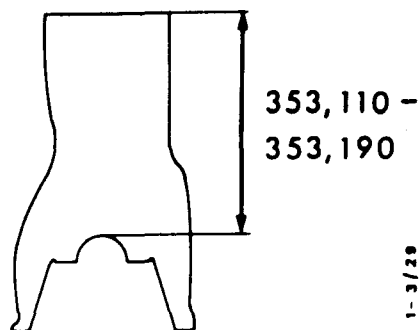

Fig. 5
3. Machine the block (fine milling or grinding) to the prescribed height - see fig. 5. The profile depth must be max. Ra 2.5.